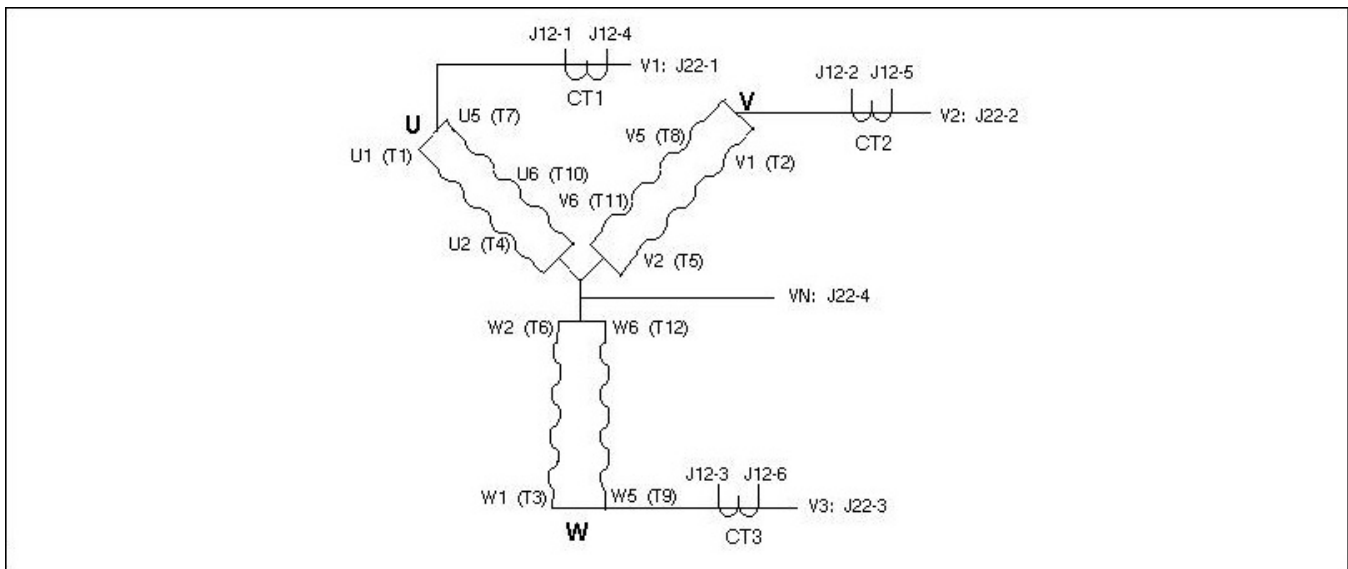

FIGURE 76. ALTERNATOR CONNECTIONS: PARALLEL STAR
- Figure 76. Alternator Connections: Parallel Star 452